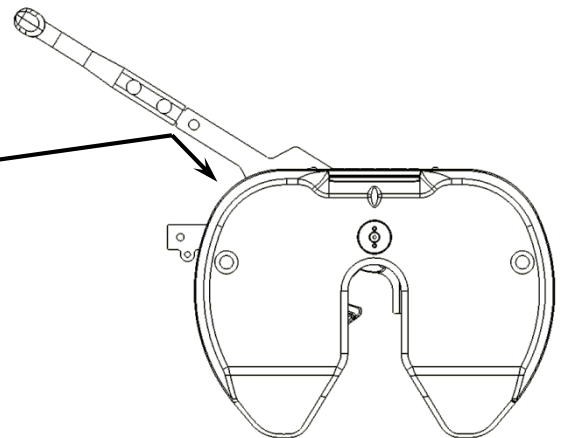

FIG. 12
- 3) Remove bail pin and move handle to unhitching position (pg. 4, fig. 12) by pulling out and rotating towards handle towards cab.*